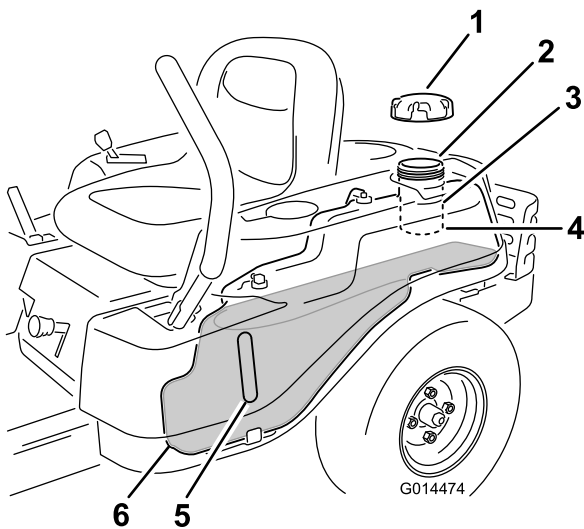

Figure 9
**Note:** You can use the fuel window to verify the presence of gasoline before filling the tank (Figure 9).
2. **Slowly** add regular, unleaded gasoline until the fuel reaches the base of the filler neck (Figure 9).